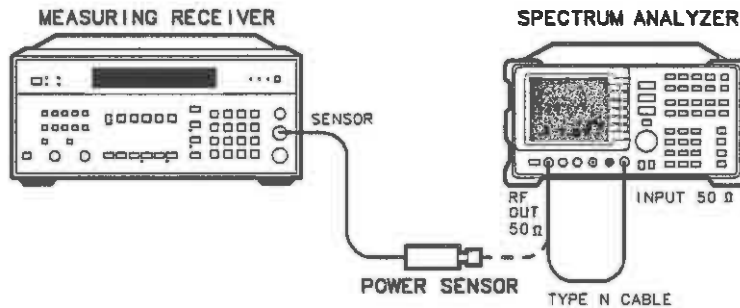

Figure 3-25. Tracking Generator Level Flatness Test Setup
1. Connect the Type N cable between the spectrum analyzer's RF OUT 50Ω and INPUT 50Ω connectors. See Figure 3-25.